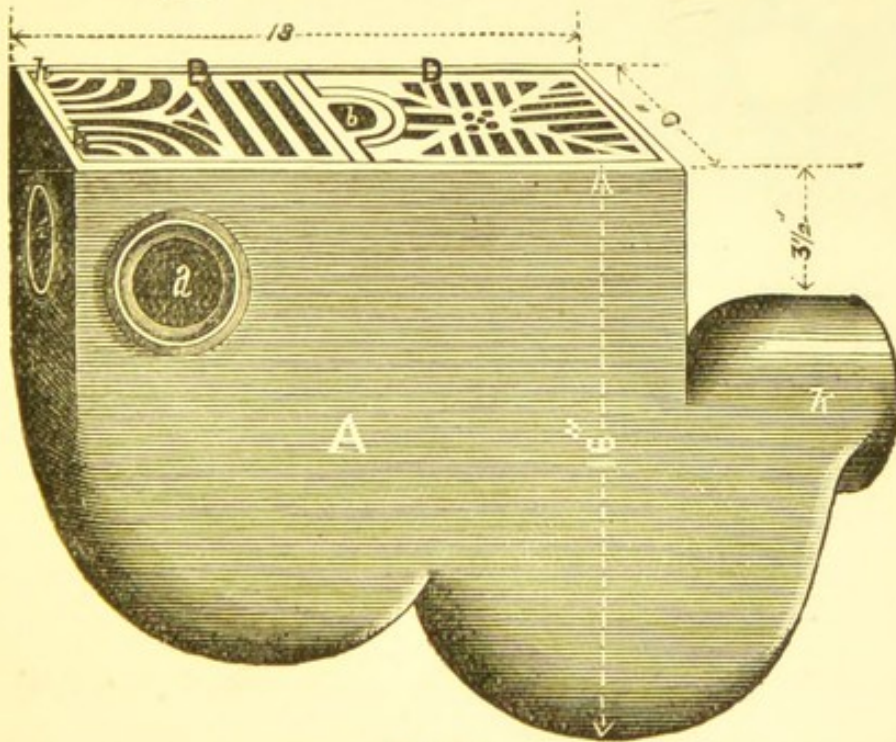
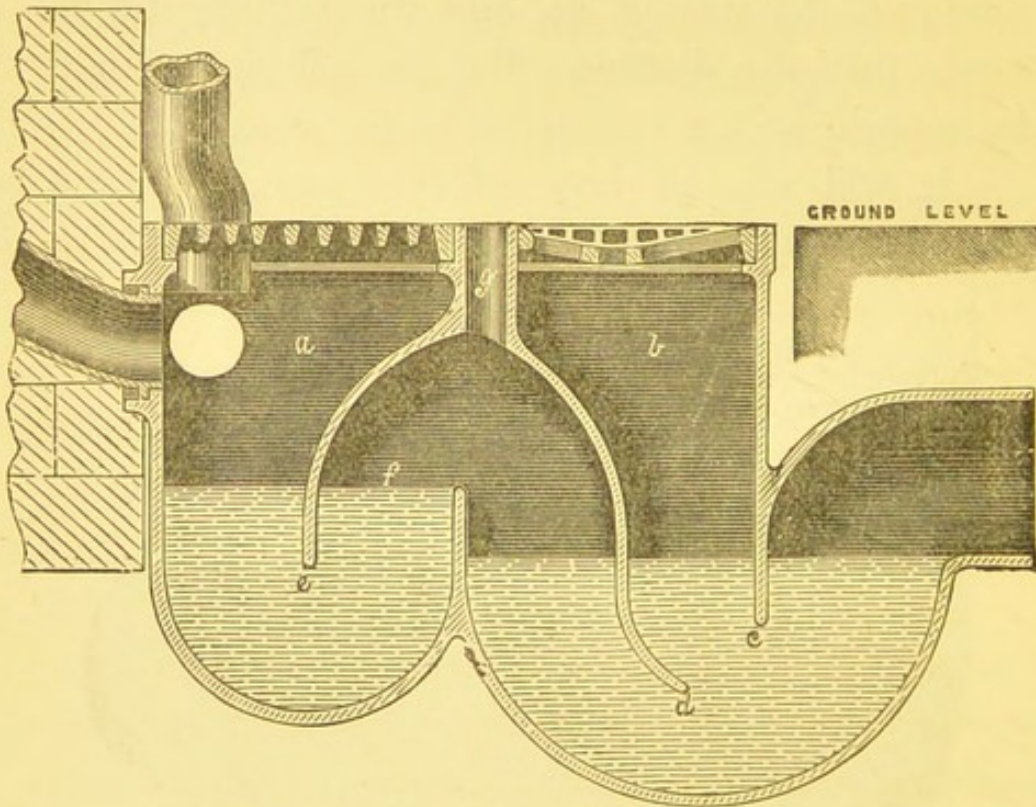

FIG. 16.
FIG. 17. LONGITUDINAL VERTICAL SECTION.
*Patent "Triple-dip Trap, or Waste-receiver and Drain-interceptor."*—The writer has taken out a patent for this trap. It can be made in any size, but the size, as given in Fig. 16, is large
enough for almost every purpose for which it should be used. The trap is made in cane-coloured pottery-ware. Fig. 16 shows a view of this trap, and Fig. 17 a section.
The compartment *a*, Fig. 17, is used exclusively for receiving waste-pipes from baths, lavatories, sinks, and such-like wastes, but *not for sewage wastes*. Section and description.
The compartment *b*, Fig. 17, is for taking away the surface drainage, when the trap is fixed in the area, yard, or any such place; and also for providing a way of escape into the open air for any strong current of air blowing through the drain, and for preventing its passing into the waste-receiving compartment, where the ends of the various waste-pipes are left open.
There are *three* water-dips (or water-locks) in this trap, and before any noxious gases from the drain can get to the waste-pipes emptying themselves into the waste-receiving compartment, they must push their way through two separate bodies of water and three water-dips—*i.e.*, a depth of  $3\frac{3}{4}$  in. at the first two dips, and another depth of 2 in. at the third dip. The dip *c*, Fig. 17, goes down into the water  $2\frac{1}{2}$  in.; the dip *d*, Fig. 17, goes down  $1\frac{1}{4}$  in. lower into the same water. The dip *e*, Fig. 17, is in another compartment, and goes down into the water  $2\frac{1}{2}$  in. Three water-dips.
Suppose a strong current of air to be blowing up through the drain, and to force its way through the *first* dip, *c*, Fig. 17, it would at once escape Difficult for any current of air to pass from the
into the external air through the compartment *b*, Fig. 17, for the *second* dip, *d*, Fig. 17, is  $1\frac{1}{4}$  in. lower in the water. But even supposing this strong current of air in the drain forces itself under dip *d*, as well as *c*, into the compartment *f*, Fig. 17, it would at once escape through the air-pipe, *g*, and would never get into the compartment *a*, under the *third* dip, *e*, Fig. 17.
The top of the trap is protected by two separate galvanised iron gratings, as shown in Fig. 16, that to the waste-receiving compartment is fitted to the pipes entering into the trap, and that to the other is sunk to receive the surface-water.
Means are provided by a countersunk hole, as *a*, Fig. 16, in each of the three sides of the waste-receiving compartment, to receive "horizontal" waste-pipes, and when not required, such holes are filled up with a stopper, of the same ware as the trap, made for the purpose; or the waste-pipes can be taken in at the top, as shown in Fig. 17. When the pipes enter at the top they must not go more than 3 in. into the trap, or down to the same level as the pipes entering at the sides, so that the *ends* in each case may be left *open to the atmosphere*. This "waste-receiver" should always be fixed a yard or two away from windows and doors. (See Plate 3, Fig. 4, showing this trap fixed.)